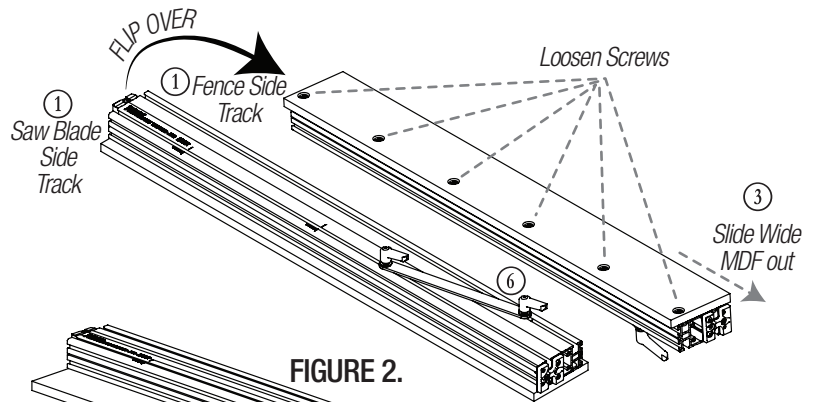
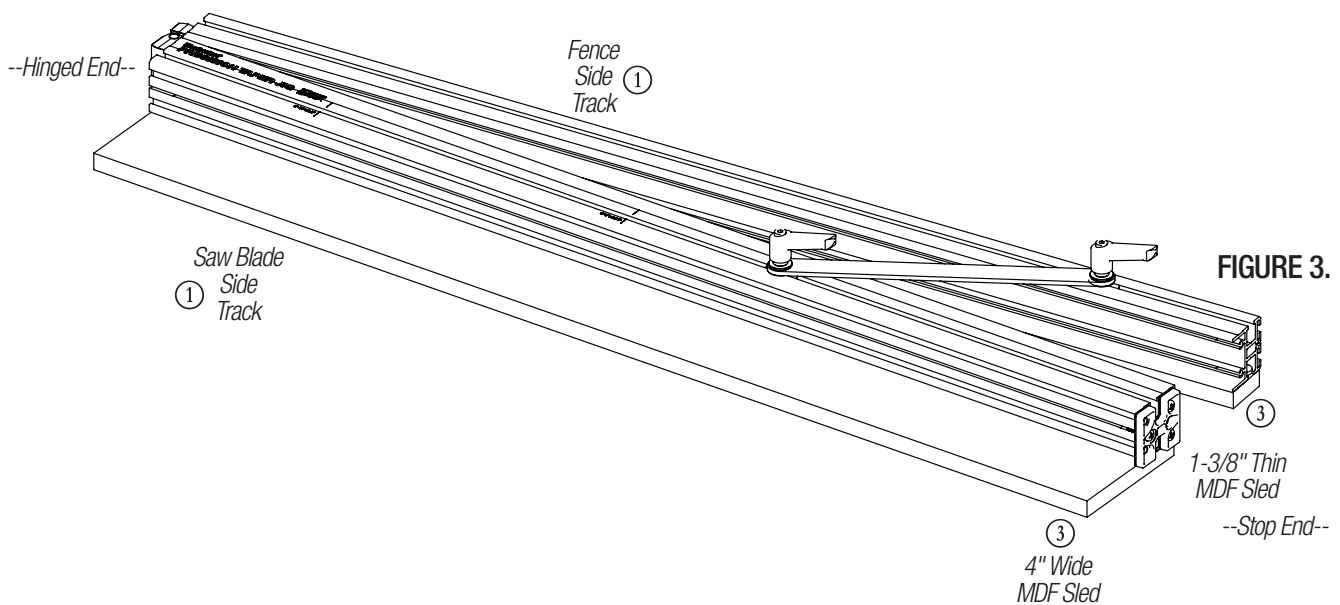

FIGURE 2.
FIGURE 3.
2. Slide the Oval Nuts into the Fence Side Track. **FIGURE 2.**
3. Secure the (6) Screws into the countersunk holes on the Thin MDF Sled.
5. Secure the (6) Screws in the countersunk holes on the Wide MDF Sled.
6. Your Precision Taper Jig should look like **FIGURE 3** at this point.